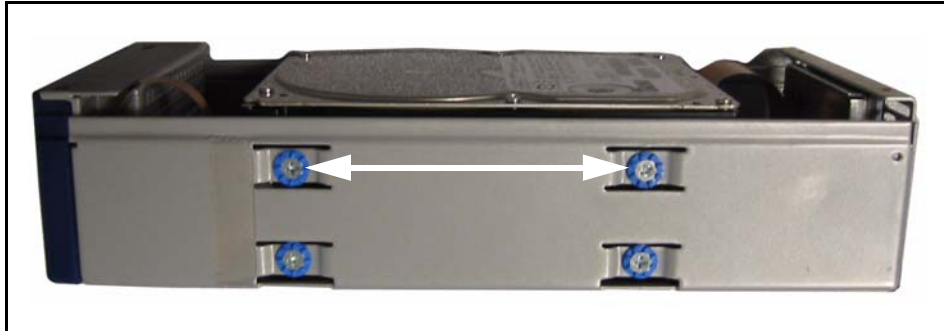

Figure 3-6 The screws on one side of a Silver RXT media pack.
1. Use a #2 Phillips screwdriver to remove the two screws closest to the open side of the pack (Figure 3-6).